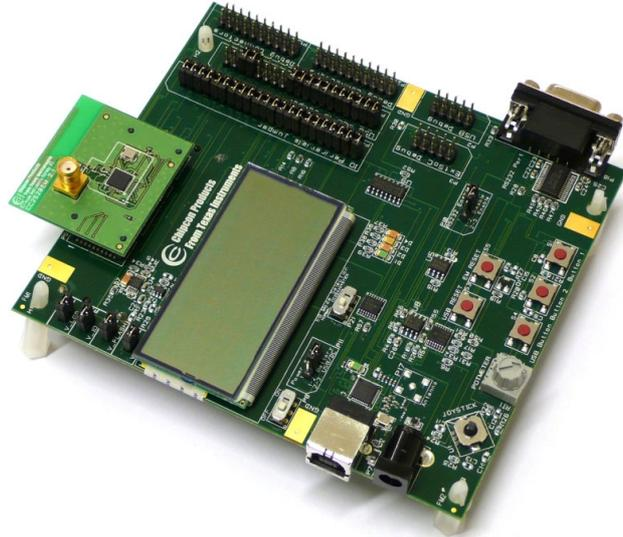
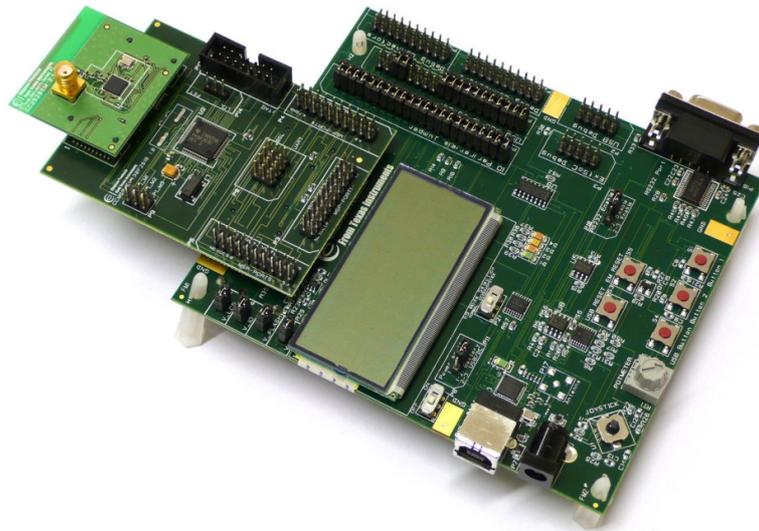

Figure 7 - CC2520EM and SmartRF05EB
Figure 8 - EB with EM and MCU board
The hardware in the kit can be used in two different modes. Either connect the CC2520EM directly to the SmartRF05EB (Figure 7) or connect the EM to the CCMSP-EM and then connect this assembly to the EB (Figure 8).
The first option (Figure 7) should be used when the RF Module is controlled by SmartRF Studio via the USB controller on SmartRF05EB. It is also possible to implement software running on the microcontroller (CC2511) on SmartRF05EB to control the EM directly.
The second case (Figure 8) can be used when the RF module is to be controlled by the MSP430 on the CCMSP-EM430F2618 board.
1. Assemble the hardware as described in Figure 8 above. Remember to connect the antennas.